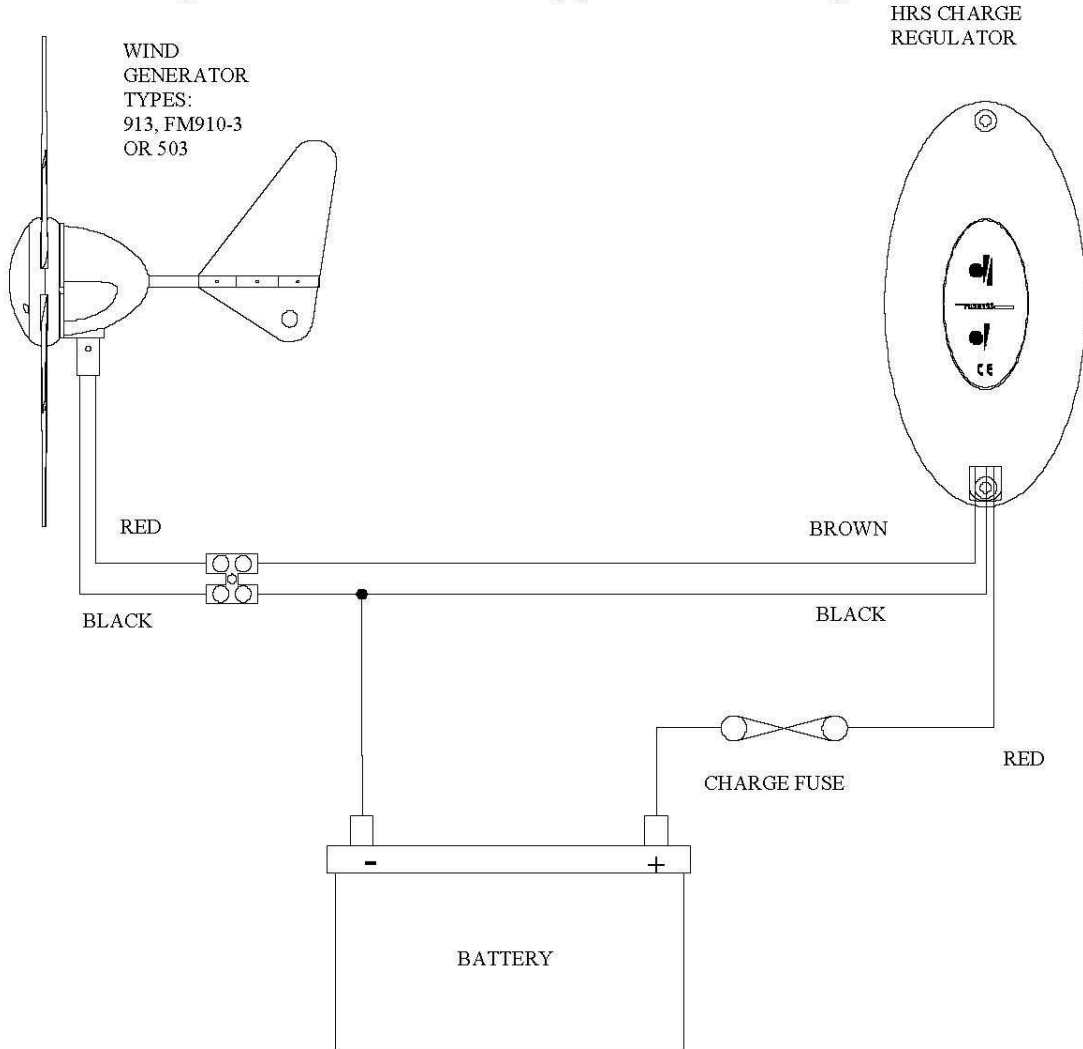

Fig 2. Basic wiring schematic – Windcharger + HRS Regulator
- Follow the basic wiring diagram (Fig 2, or 3 overleaf) as appropriate.